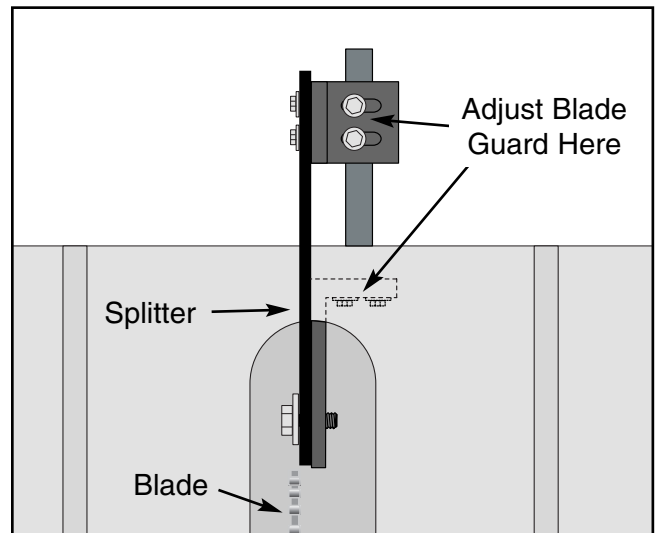
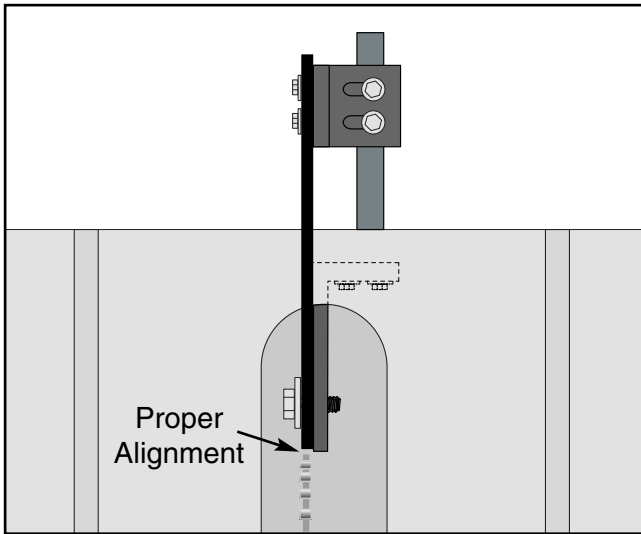

Figure 34. Incorrect blade guard alignment.
Figure 35. Correct blade guard alignment.
- If the blade guard is not aligned correctly behind the blade (**Figure 34**), then adjust the blade guard mounting bracket and the front blade guard support so they align correctly (**Figure 35**).